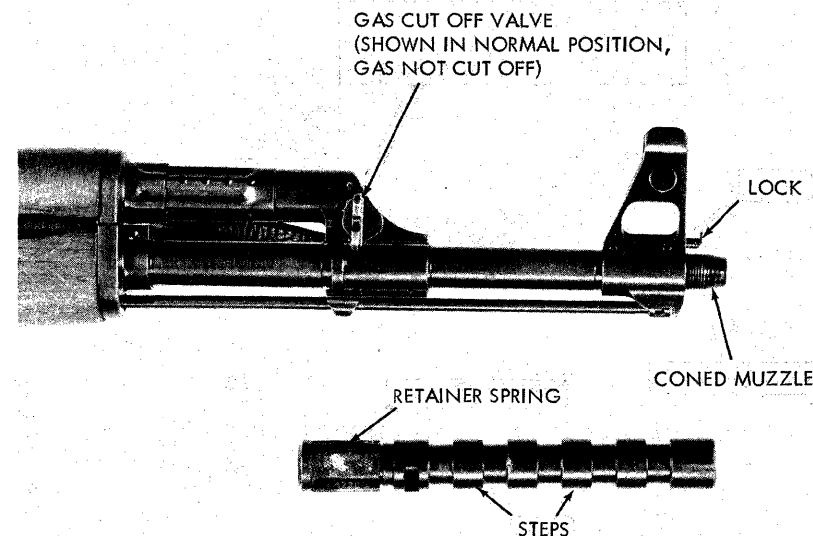

Figure 73. LON-1 grenade launcher.
j. The Polish LON-1 grenade launcher (fig 73) is usable only on rifles with a coned muzzle and gas cutoff. The muzzle nut is removed (left-hand thread) after depressing the muzzle nut lock, and the LON-1 launcher is screwed onto the muzzle. The launcher is hand tightened until it seats. Be sure to hold the modified lock (fig 73) fully in until the launcher is snug. Whenever the launcher is removed, the muzzle nut must be replaced to protect the threads.
cartridges must not be used; the use of any other cartridge will result in injury or death. Insert the magazine and load the rifle (para 89 a-d). Rotate the gas cutoff valve on the gas cylinder of the Polish PMK-DGN-60 (fig 73) so that the valve finger piece is parallel to the barrel, or erect the grenade sight of the Yugoslav M64 series rifle. This prevents damage to the rifle mechanism when grenades are being launched.